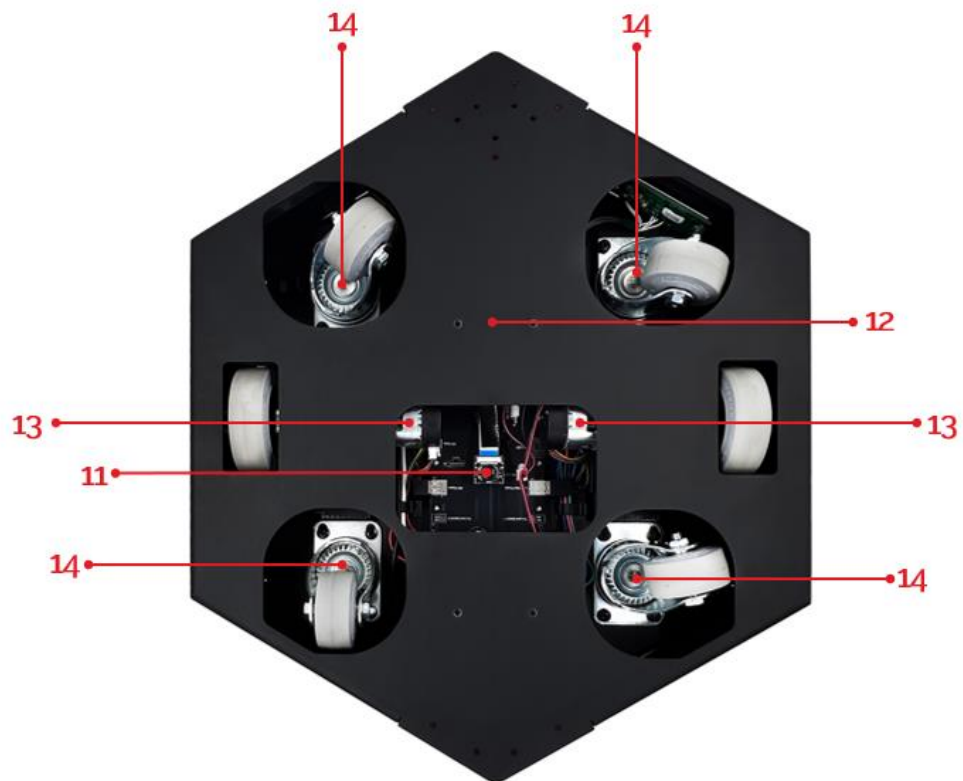

Figure 4: Bottom view
The QBot Platform provides a grayscale global-shutter CSI camera (Figure 4 item 11 and Figure 8) underneath the robot at a slight offset towards the front of the robot for line following. The camera has a lens providing up to 160° Diagonal-FOV. See Table 5 for more information.